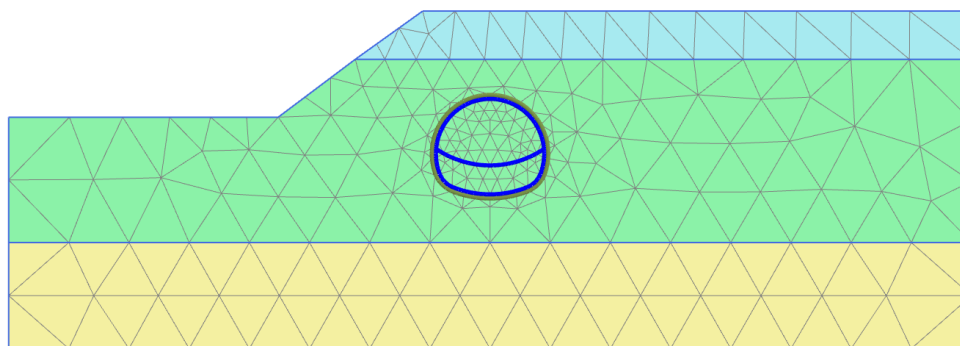

Figure 71: The generated mesh
- Click the **View mesh** button  to view the mesh as shown in Figure 71 (on page 97).